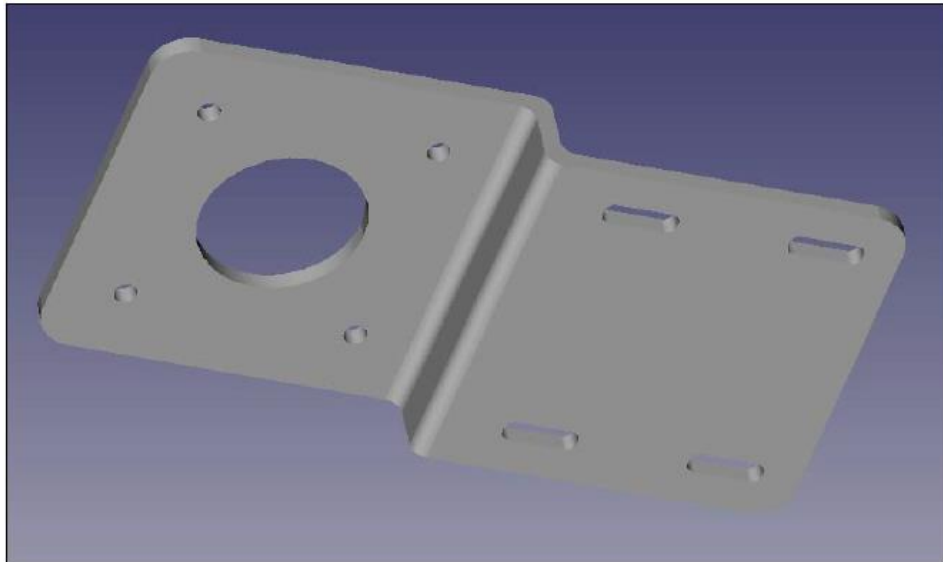

Figure 64 – Part 4 with fillet
1. Fillet the part in the necessary, in your opinion, places for part 4 (Figure 64):
1. Create an extruded object - Part 4 (Figure 64).